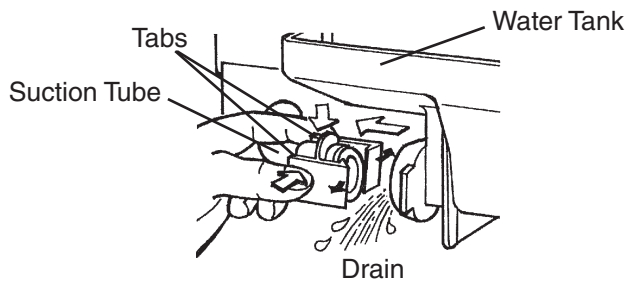

Fig. 32
- 6) Inside the ice storage bin, disconnect the suction tube by squeezing the tabs and pulling the tube clear. See Fig. 32. Allow the water tank to drain.